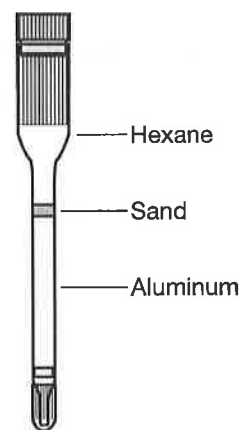

Figure 4.
3. Remove the column from the clamp and place the tip on the bottom of the column. Pour about 2.5 mL of hexane into the column—enough liquid to fill the narrow part of the column (see Figure 4).